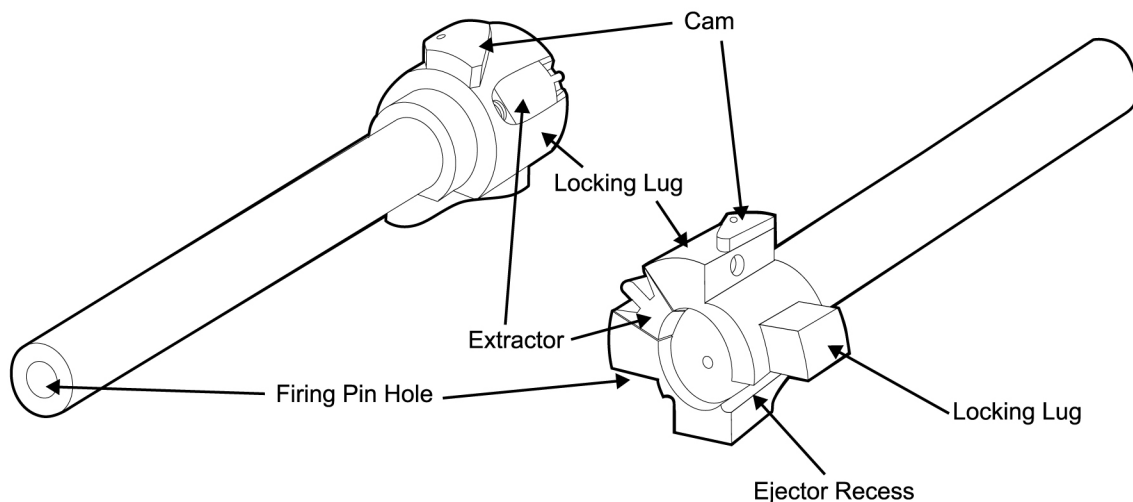

Figure 5. Opposite Views of the Bolt Assembly.
6. Inspect the bolt as follows. Refer to Figure 5: